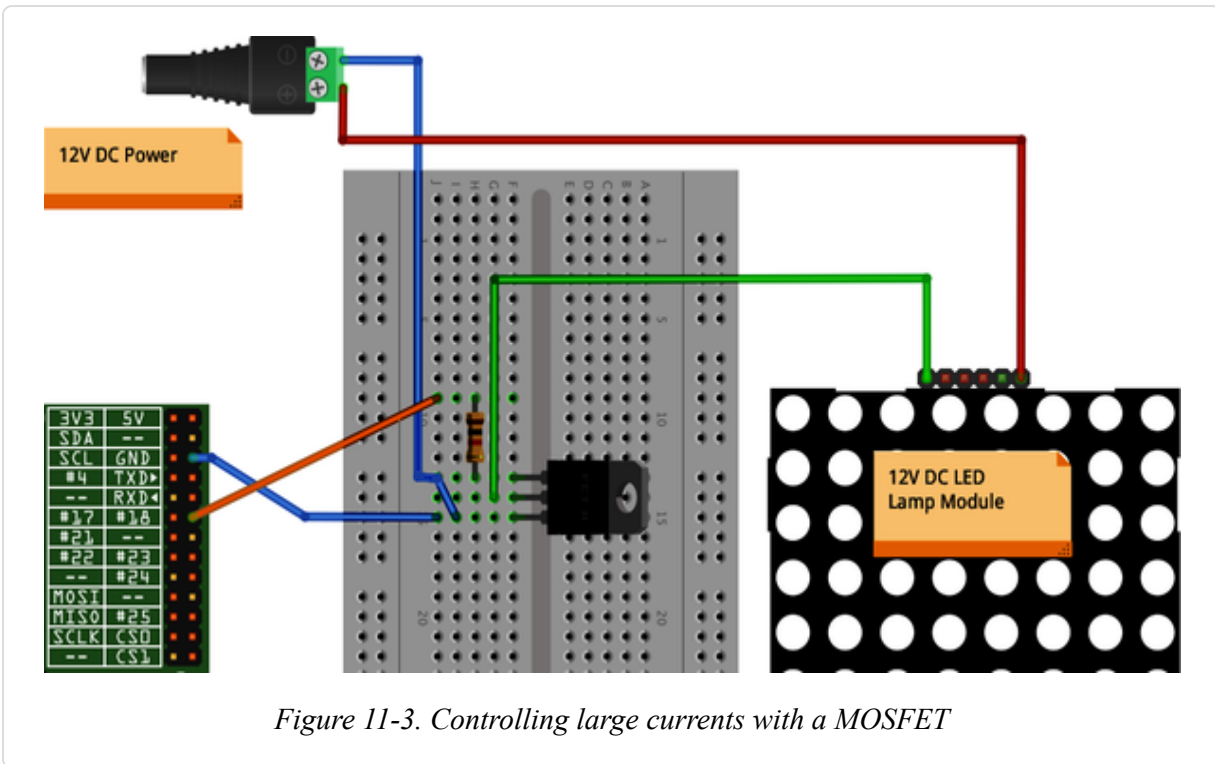

Figure 11-3. Controlling large currents with a MOSFET
**Figure 11-3** shows how you can connect a MOSFET on a breadboard. Make sure that you correctly identify the positive and negative supply leads for the LED module.